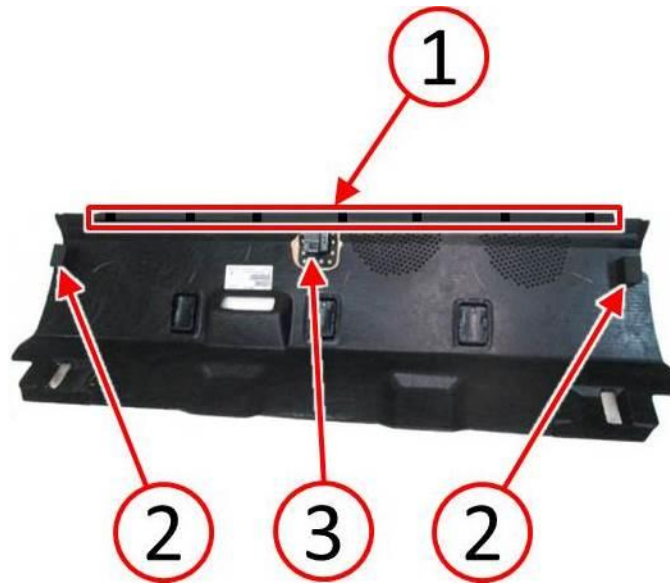

Fig. 4 Underside Of The Rear Shelf Panel
14. Inspect the underside of the rear shelf for two 25 x 45 x 50 mm foam blocks (2) on outboard edges and one retaining clip (3) in the center of the shelf (Fig. 4). If any of these items are missing, replace the rear shelf panel with a NEW shelf panel.
15. Remove the seven 50 x 20 mm foam pieces (1) along the rear edge of the shelf panel (Fig. 4).